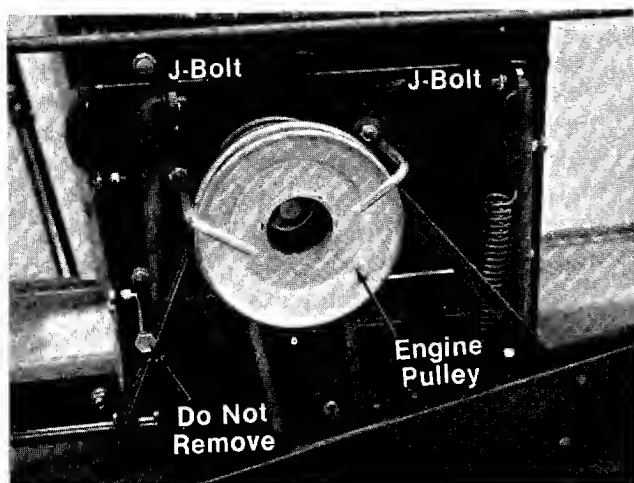

FIGURE 26.
Figures 26 through 30 were photographed with the unit tipped up for clarity. It is not necessary to tip the unit to remove the belts.
2. Remove the two J-bolts (belt keepers) from the engine pulley belt guard. See figure 26.